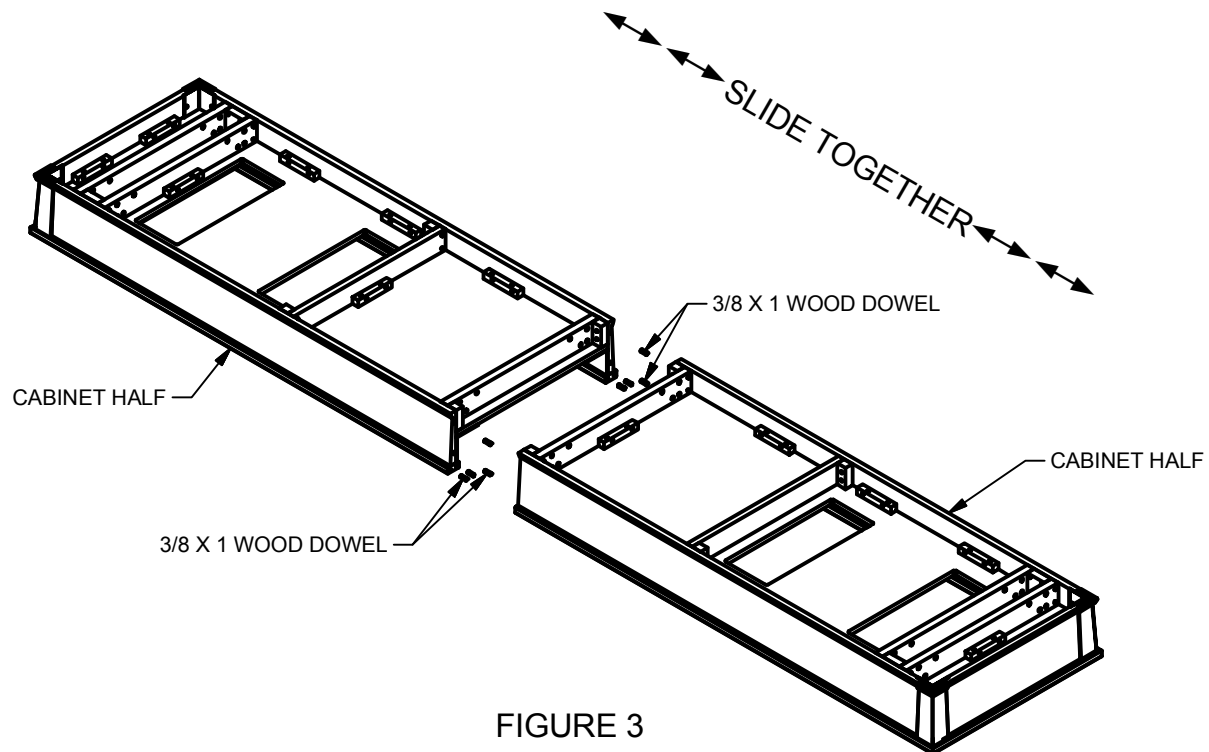

FIGURE 3
- Step 2: Insert wood dowels into dowel holes on one cabinet half and slide the cabinet halves together. **(See Figure 3)**